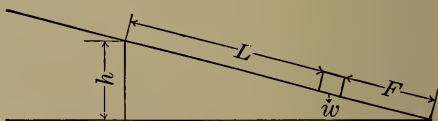

FIGURE 263.—THE INCLINED PLANE.
**284. Inclined Plane.**—The inclined plane consists of a plane set at an angle to the horizon. (Figure 263.) The